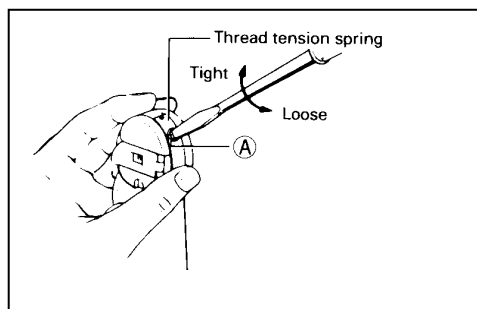

Fig.19
22、 Lower thread tension (Fig.19):